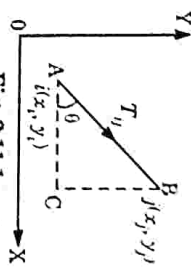

Fig. 2.11.1.
2. Let end A is at node  $i$  and end B is at node  $j$ , as shown in Fig. 2.11.1 and let the pull in the member AB is  $T_{ij}$ , then at node ' $i$ ' (at point A)